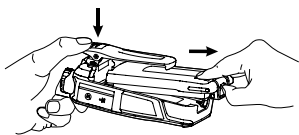

Figure 4
2. When the bottom of battery is lifted, release the battery latch and remove the battery from the radio's body, as shown in figure 4.